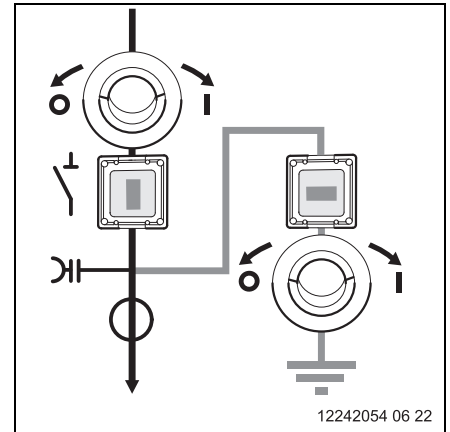

Fig. 50
**7** Switch position with activated disconnector and deactivated earthing switch (Fig. 50).